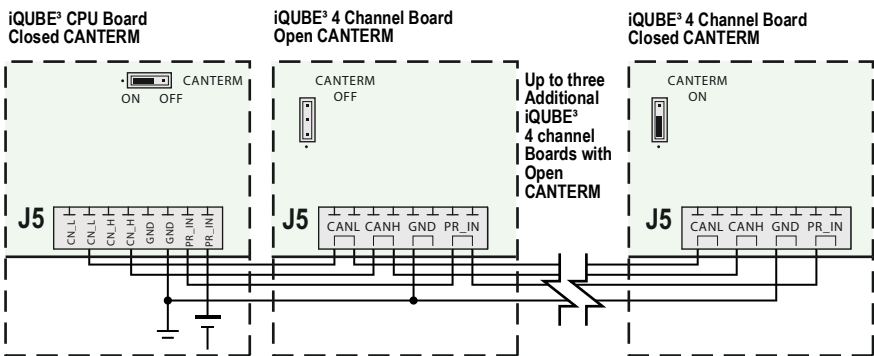

Figure 5. J5 CANBUS Wiring
- Wire J5 connectors in parallel from the iQUBE3 CPU board J5 to the J5 connector of each 4 channel iQUBE3 board. Figure 5 displays an example for wiring multiple iQUBE3 boards.